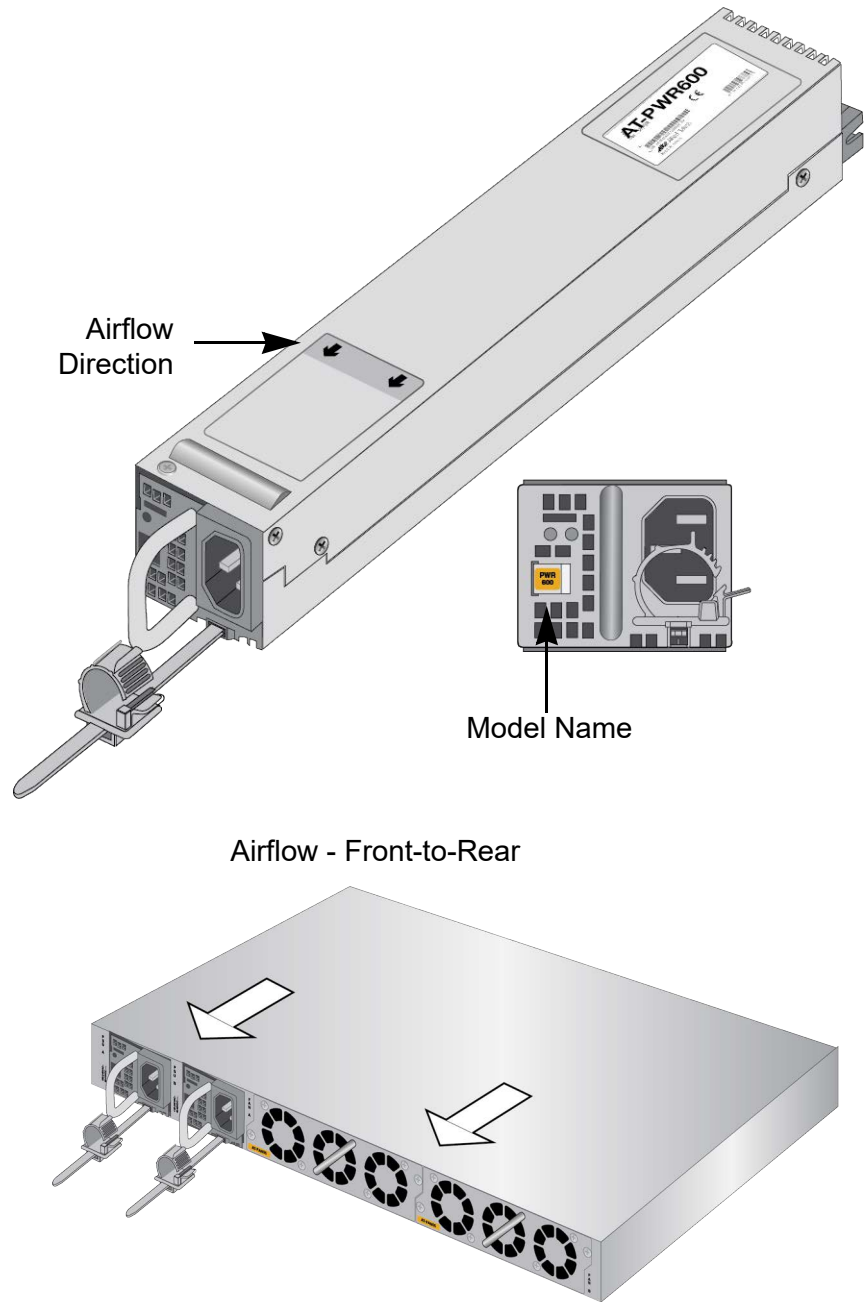
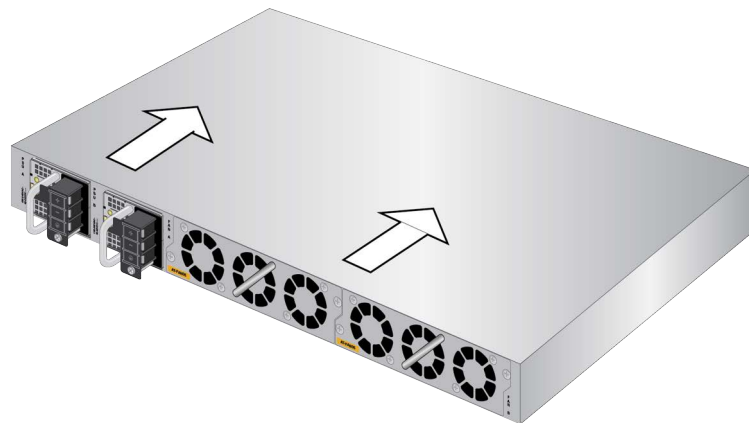

Figure 13. AT-PWR600 Power Supply and AT-FAN05 Fan Module
Figure 16. AT-PWR600R-80 DC Power Supply and AT-FAN05R Fan Module
1. The power supply model names are on labels on the top panels of the power supplies. Refer to Figure 13 on page 45 and Figure 16 on page 48.
The AT-PWR600 AC Power Supply is shown in Figure 13.
The AT-PWR600R-80 DC Power Supply is shown in Figure 16.